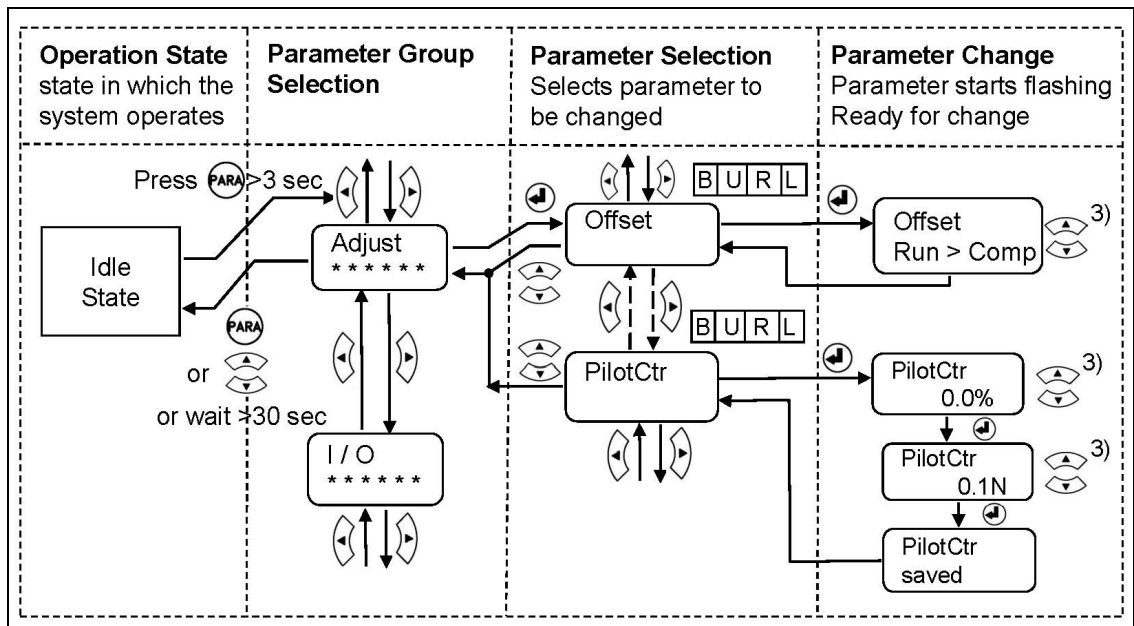

Fig. 28: State Diagram Adjustment Procedure "Pilot Control"
- In the parameter group Adjustment Procedures select the procedure *PilotCtrl*. Follow the instruction in Fig. 28: State Diagram Adjustment Procedure *Pilot Control*.